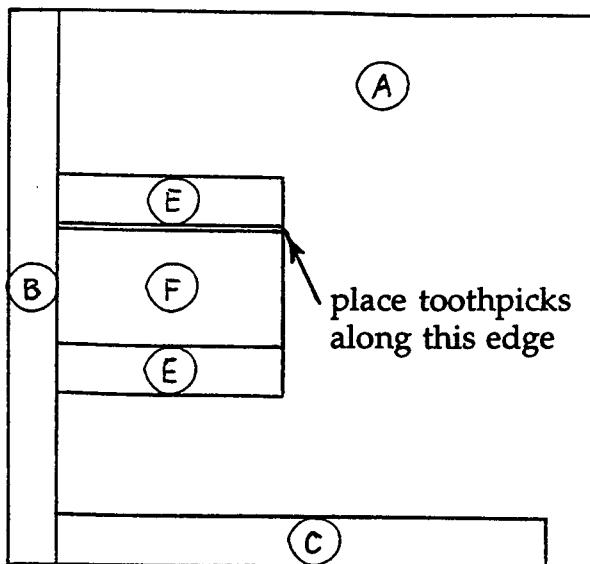

Figure 3.
Step 5: Remove the toothpicks and set the door aside until a later time. Select the next **door F** and, using the same procedure as Step 4, position **strip E** according to Figure 3.